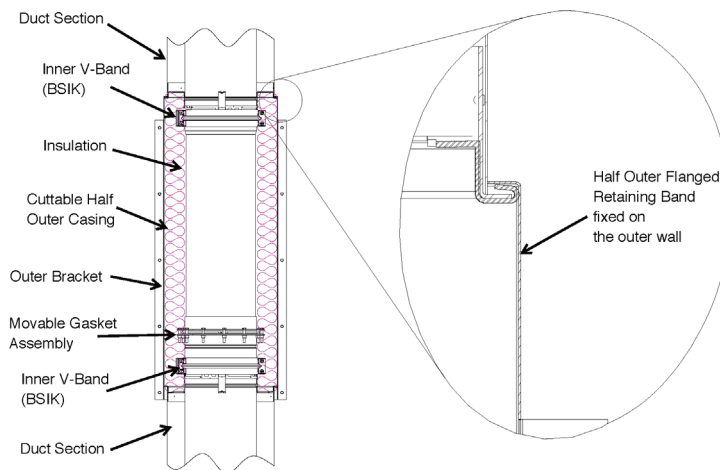

Figure 19 - Installation of Adjustable Length Step 6
6. Install the outer pipe casing insulation (and insulation strip Models CIX1, CIX2, CIX4, and CIX3Z) so the side with the bracket goes on the upstream section. See **Figure 19**.